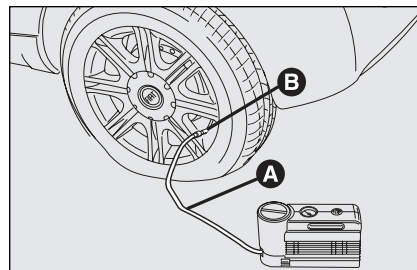

fig. 14
- ☐ **Pull up the handbrake.** Loosen tyre inflation valve cap, take out the filler hose **A**-fig. 14 and screw the ring nut **B** on the tyre valve;